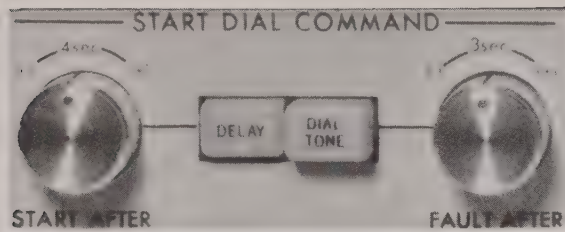

Fig. 9—Start Dial Command Controls
3.20 The start dial command determines the conditions which must be met before dialing can begin. As indicated in Fig. 9, the two programmable start dial conditions are DELAY and DIAL TONE.